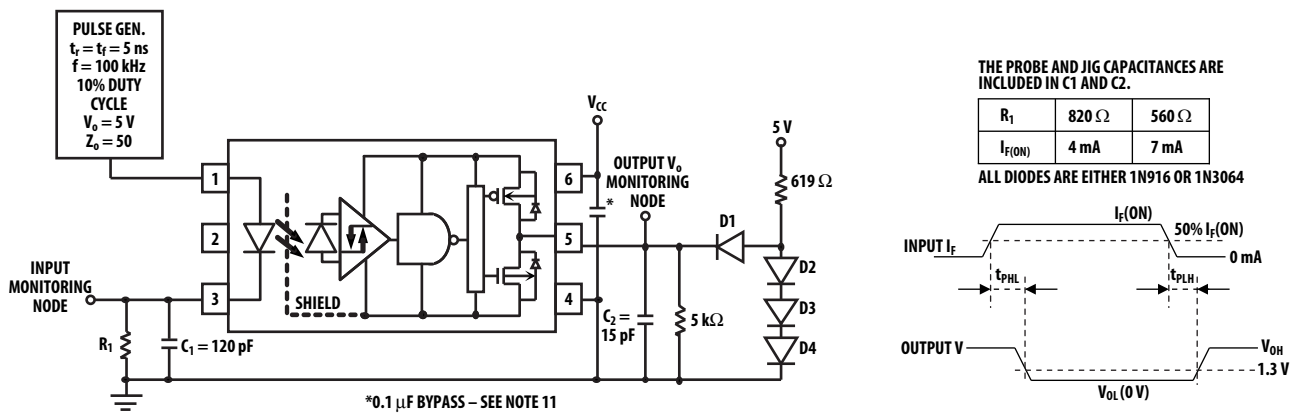

Figure 5. Circuit for t_{PLH} , t_{PHL} , t_T , t_F
- The t_{PLH} propagation delay is measured from the 50% point on the trailing edge of the input pulse to the 1.3V point on the leading edge of the output pulse. The t_{PHL} propagation delay is measured from the 50% point on the leading edge of the input pulse to the 1.3V point on the trailing edge of the output pulse. Peaking capacitor, $C_1 = 120\text{pF}$ must be connected as shown in Figure 5.